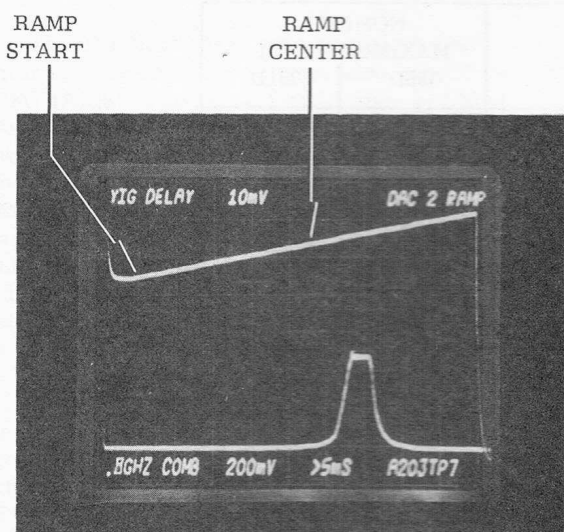

FIGURE 6-7
(4) Adjust A202R16 so the 50% point of the leading edge of the video pulse occurs one division to the right of center of the DAC 2 ramp as shown in Figure 6-7. Note that the point marked "Ramp Start" is 3 ms after DAC 2 ENABLE, and that the point marked "Ramp Center" is not the center of the display.
(5) Tune to 18 GHz (12.4 on 350D) and observe position of leading edge with respect to DAC 2 "Ramp Center". This should be approximately one division to the left of "Ramp Center".
(6) If necessary readjust A202R16 until the leading edge of the video pulse is the same distance to the right of "Ramp Center" at 1 GHz, as it is to the left of "Ramp Center" at 18 GHz.